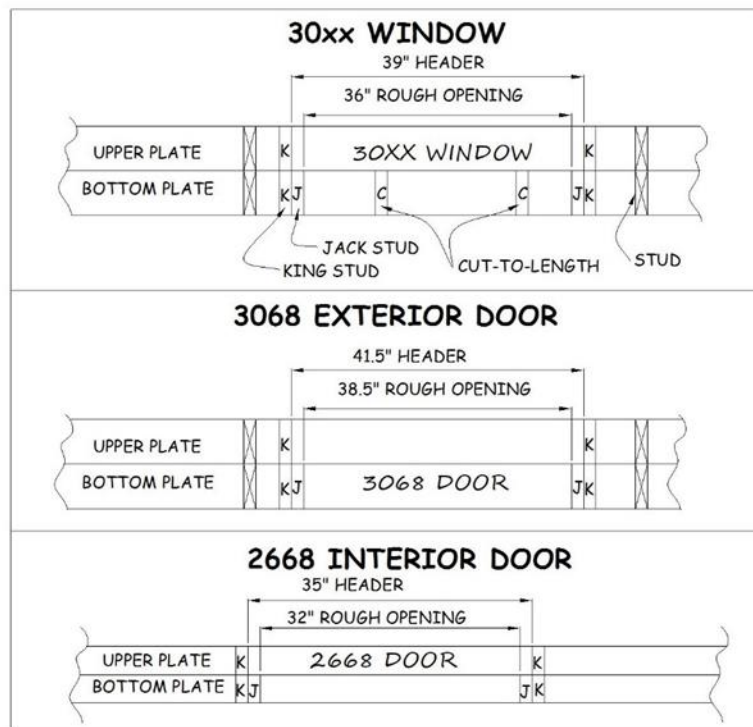
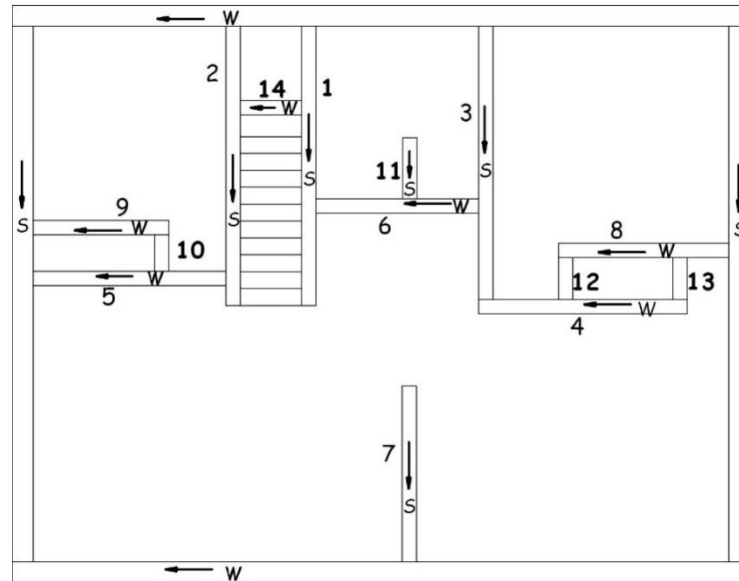

Figure 3-5. Plate Marking for Doors and Windows.
Figure 3-8. Plate Labeling Diagram.
- Referring to the window or door sizes indicated on the Plate Layout Drawing, measure and mark the location of the King and Jack studs supporting the header (see Figure 3-5). Window and door sizes are indicated with a four-digit code. The first two digits represent the width of the opening in feet and inches. The second two digits represent
- a. Mark the inside edge of the upper plate with “UPPER” and the inside edge of the bottom plate with “BOTTOM” (see Figure 3-5). Mark the upper plate with a letter and arrow showing the compass orientation (north, south, east or west) of the plates while lying on the deck (see Figure 3-8).
5. When complete, label upper and bottom plates. Mark compass orientation and label both plates and deck with an identifying number (see Figure 3-8).